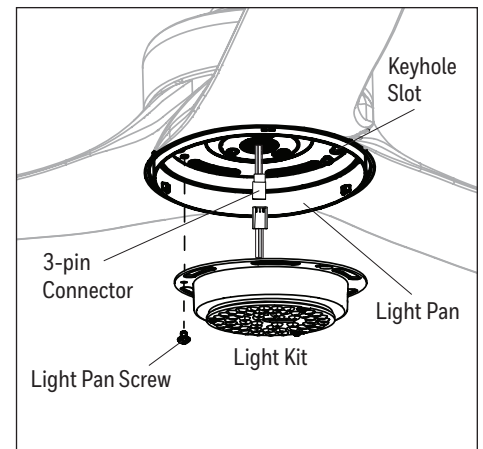

Figure 5.5
- Remove one of the three light pan screws from the light pan and loosen the other two but do not remove. Connect the 3-pin connector from the light pan to the 3-pin connector from the light kit. Lift the two keyhole slots in the light kit over the two loosened light pan screws and turn in a clockwise direction. Then, use the previously removed light pan screw to secure the light kit to the light pan. Tighten all screws (Figure 5.5).